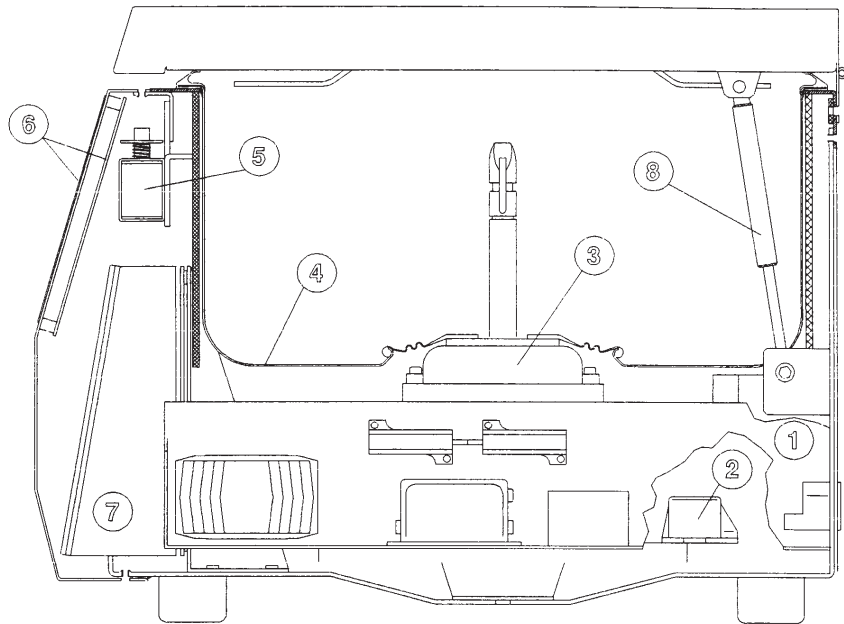

FIG. 2.3 - COMPONENTS OF THE C3i
The electronic part of the apparatus is formed of two boards : the microprocessor + power pcb, where every function is located and the user interface pcb with display and LEDs. The former is located inside the body of the machine (fig. 2.3 or 2.5, item 7), whereas the second one is in the back of the front panel (fig. 2.3 or 2.5, item 6).
The electronic imbalance sensor is located on the motor stabilizer (fig. 2.3 or 2.5, item 2) and allows the detection of and excessive imbalance due to the rotor loading.